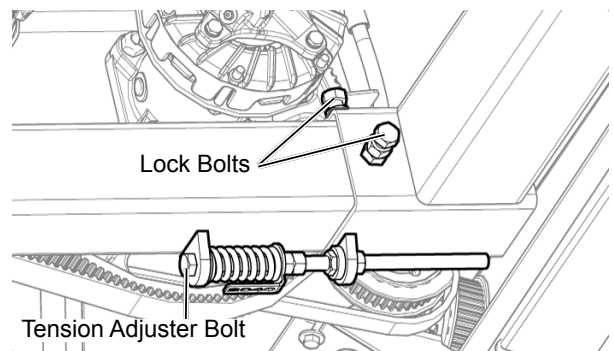

Fig. 91 - Left Draper 1st Drive Belt Tension Lock Bolts
1. Loosen the two lock bolts shown in Fig. 91 on page 65.